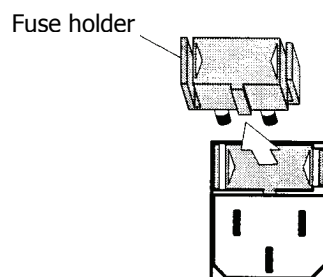

Figure 5 Removing the fuse holder
3. Gently pull out the fuse holder, as shown in Figure 5.